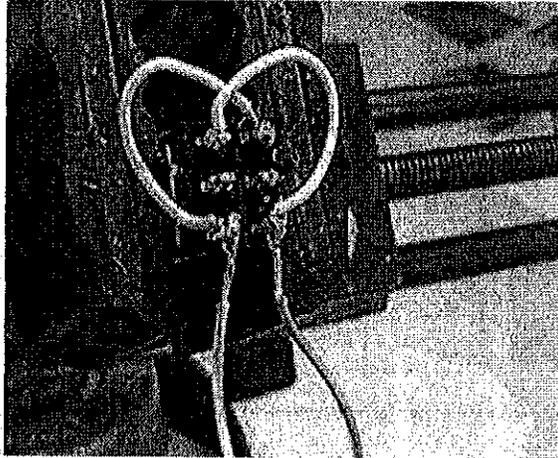

Figure 43: Cross-wired toggle switch with tether connections
7. Attach the green (+) wire to the right corner terminal on your first pole switch. Attach the white and green (-) wire onto the terminal adjacent to it, as shown in Figure 43. Repeat with blue wires for the second switch.